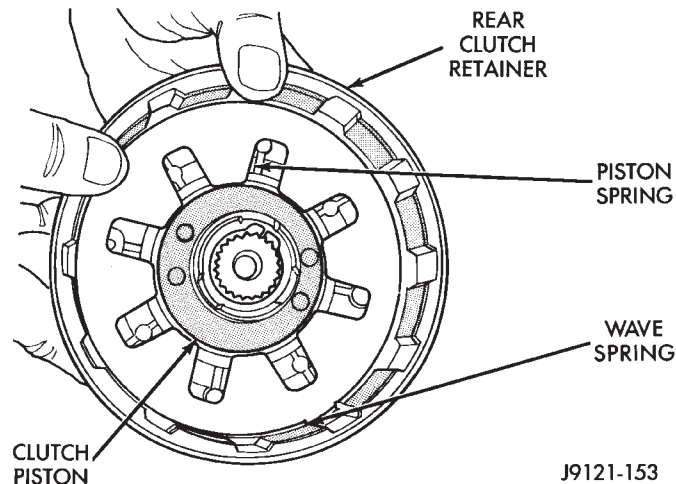

Fig. 220 Piston Spring/Wave Spring Position
(8) Install piston spring in retainer and on top of piston (Fig. 220). Concave side of spring faces downward (toward piston).
(9) Install wave spring in retainer (Fig. 220). Be sure spring is completely seated in retainer groove.